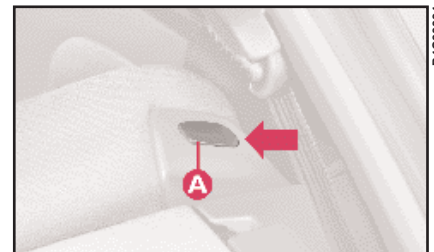

fig. 77
3) Release the seat back by pressing button **A** (fig. 77) (one for each side) located on the back seat back-rest (even when a split back seat is fitted); a red strip will appear on the short side of the button (towards the inside of the car) to indicate that it has been released.